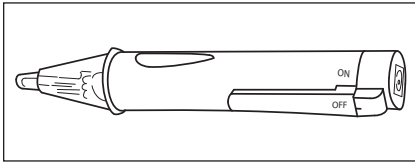

Figure 2 - Use a non-contact circuit tester to ensure that the power is off before you work on a circuit.
- Non-Contact circuit tester to check for power (Figure 2)